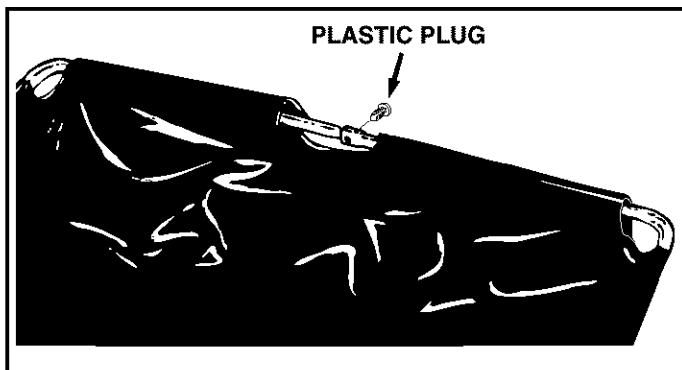

FIGURE 10
- Slide the two upper hopper tubes together and line up the center holes as shown in figure 10.
- Fasten the upper hopper tubes together by inserting a plastic plug into the center holes. See figure 10.